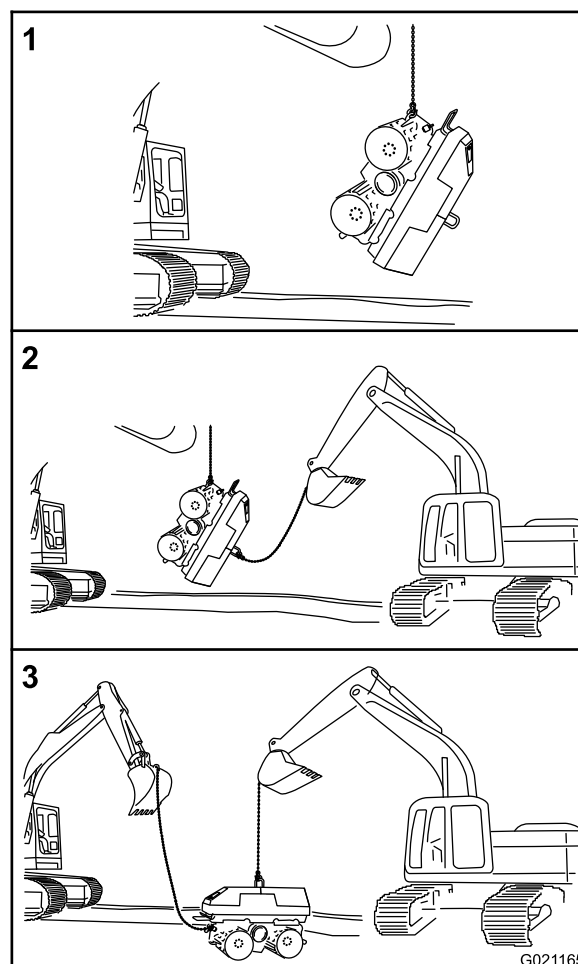

Figure 46
- A. Attach the first unit of lifting equipment to the forward or rear tie-down ring (Figure 46).
- B. Slowly raise the lifting equipment to rotate the machine vertical (Figure 46).
- C. Attach the second unit of lifting equipment to the lifting ring (Figure 46); refer to Lifting the Machine (page 30).
- D. Transfer the weight of the machine from the first unit of lifting equipment to the second lifting unit (Figure 46).
3. Lower the machine and disconnect the lifting equipment (Figure 46).